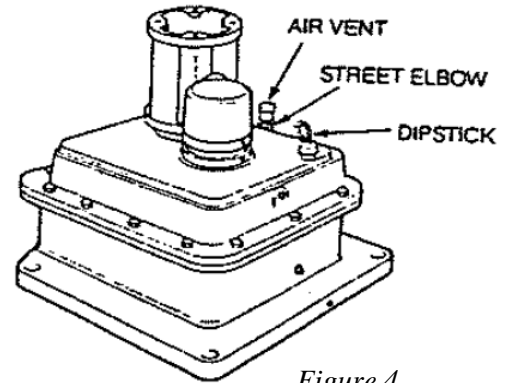

Figure 4.
6. Refer to Figure 4. Remove the pipe plug from the input housing half and replace it with the street-elbow and air-vent assembly as shown. Seal the threads with pipe compound or Teflon tape. Make sure the vent is in the vertical position. Next, remove the pipe plug from the dipstick opening and replace it with the dipstick bushing.